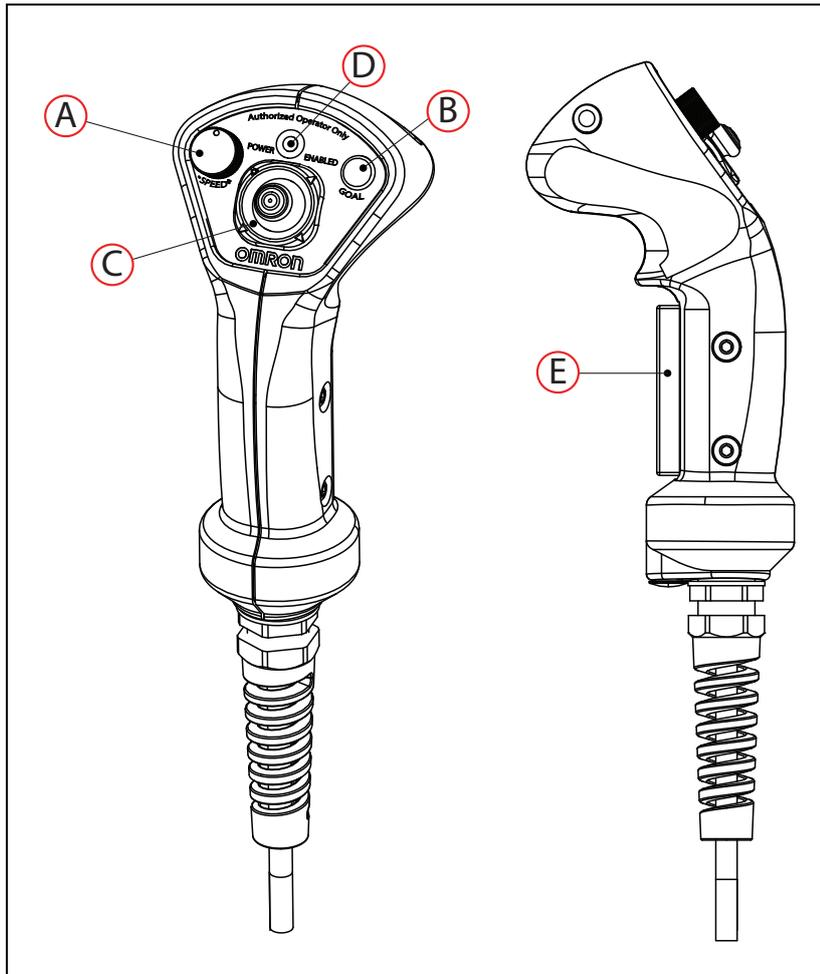

Figure 7-30. Pendant, (A) Speed Control, (B) Goal Button, (C) Directional Control Stick, (D) Power Indicator LED, and (E) Three-Position Enabling Device
The pendant is intended for single-handed operation. Use your fingers to grip the handle, and control the three-position enabling device ((E) in Figure 7-30. ), and your thumb to move the directional control stick ((C) in Figure 7-30. ).
5. Squeeze and hold the three-position enabling device ((E) in Figure 7-30. ) with medium pressure (this will enable high power to the drive motors), and use the directional control stick ((C) in Figure 7-30. ) to drive the AMR. See: Table 7-2.
7. Use the speed control switch ((A) in Figure 7-30. ) to control the speed of the AMR, and achieve your desired velocity.
Use the pendant's GOAL button ((B) in Figure 7-30. ) for marking positions while making a map scan.
The pendant has a power indicator LED ((D) in Figure 7-30. ) which gives visual indication of the HD-1500 operating state.